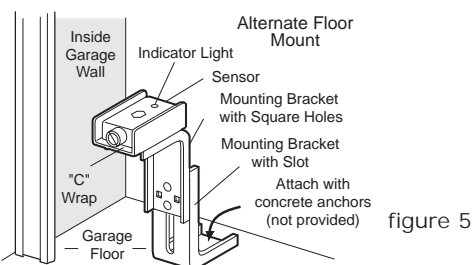

figure 5
- Run wires from both sensors to the opener as shown in Figure 5. Use insulated staples to secure the wire to the wall and ceiling.